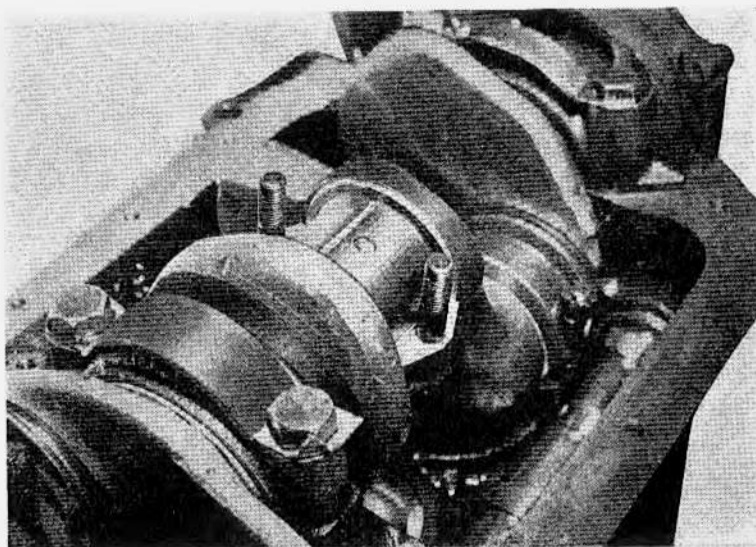

Figure 98 - Plastigage on Crankpin
- (3) Place a piece of plastigage the full width of the bearing or crankpin (parallel to the crankshaft) (Fig. 98).